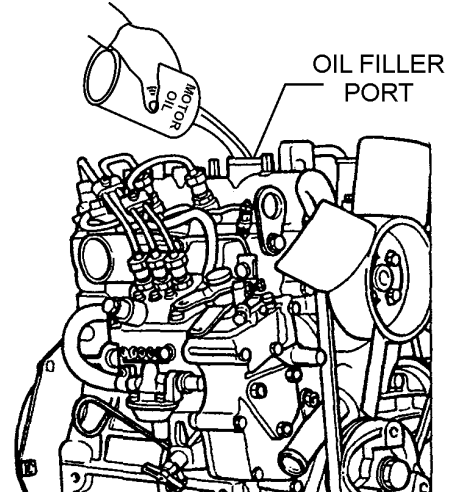

Figure 16. Engine Oil Filler Port
4. If the oil level is low, remove the oil filler cap (Figure 16) and fill to a safe operating level (max) as indicated by the dipstick. Fill with recommended type oil as listed in Table 8. Maximum oil capacity is 2.64 quarts (2.5 liters).